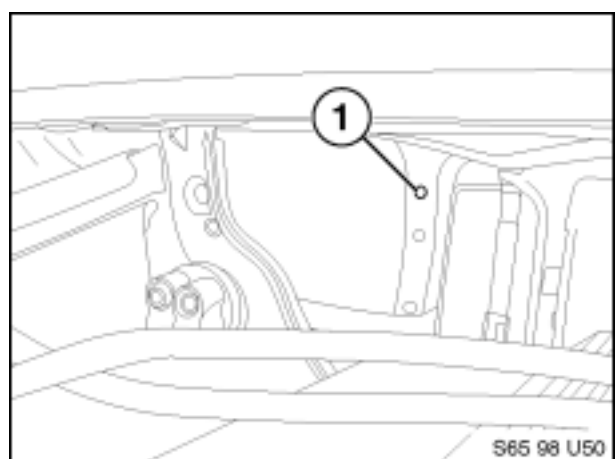

Figure 4
- 1.10 See Figure 4. Look into the RH (passenger's side) area of the firewall to determine if the uppermost hole (1) has a M6 threaded insert installed. If M6 threaded insert is in position, proceed to step 1.12.